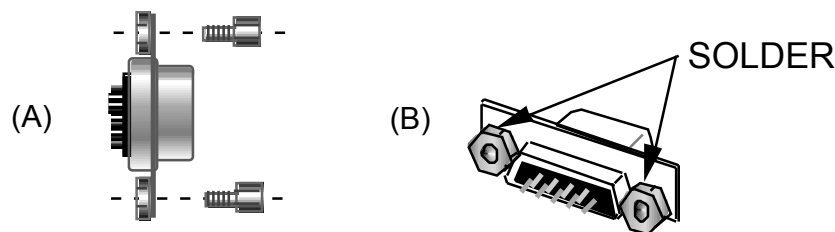

Figure 1
- Locate two male/female hex standoffs and two brass nuts. Temporarily insert the standoffs through J1 from the socket side, and secure them *hand-tight only* with the brass nuts as shown in Figure 1 (A).
- Solder the brass nuts to the D-connector (J1) at the locations shown in Figure 1 (B). This is best accomplished by using the tip of your soldering iron to heat both the nut and flat portion of J1 at the same time. If you cannot melt solder onto the brass nut after heating this junction for about 8-10 seconds, use a larger iron. Avoid overheating the connector, which could melt the plastic surrounding the solder cups.